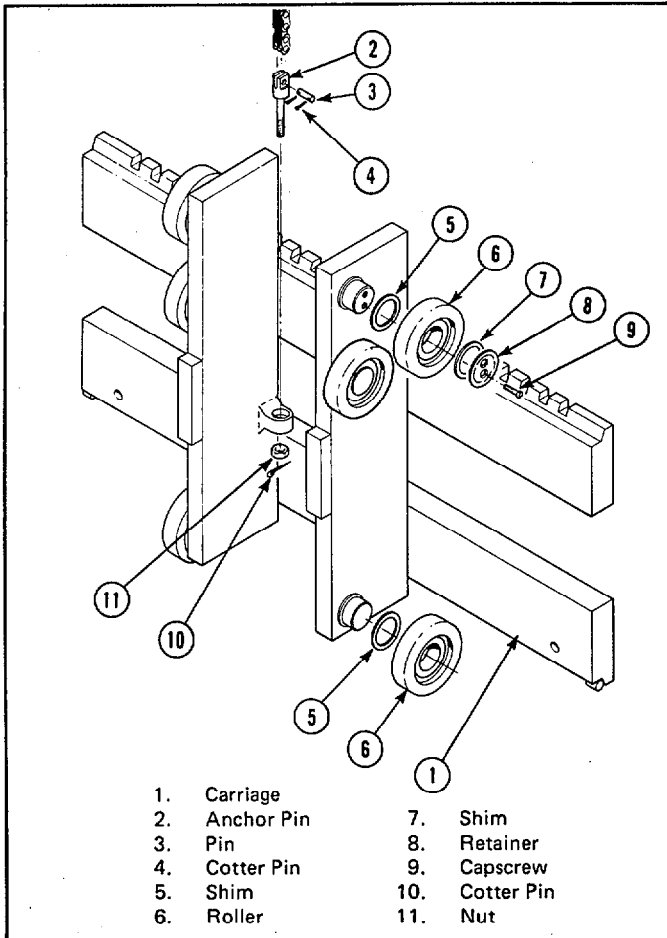

Figure 36. Carriage Assembly
1. Assemble the carriage load rollers onto their stub shafts using an appropriate number of shims. See Figure 36. The shims should be installed to provide a clearance no looser than 0.030 inch at the tightest spot throughout its travel. Refer to Section 5.3-12 for load roller shimming.